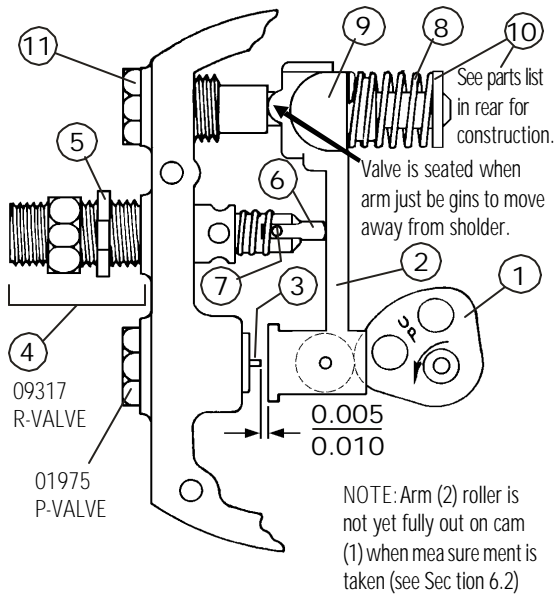

Figure 2
Remove the five hex head screws holding the top cover plate and remove the cover (with the pumper attached if a single pumper unit). This will open up the valve operating section, as shown in Figure 2, page 8.
system, you should proceed as follows. Refer to Figure 2, for the location and proper assembly of parts. You will probably also want to refer to the exploded parts drawings for your unit, included in the rear of this manual for details on parts placement and assembly.
Remove the five hex head screws in the top cover (P/N 00076). Be careful that the gasket (P/N 00456) is not damaged. The exposed mechanism should appear as shown in Figure 2, and there should be no loose parts. The numbers in parentheses in this section refer to the identification numbers in Figure 2.
Refer to Figure 2, for this procedure. Rotate the cam (1) until the arm (2) is 0.005 to 0.01 inch from the needle (3). Hold in this position. (You may need to partially unscrew the cam from the shaft to do this, or, if the maincase has been removed from the lower section, you may turn the drive dog on the bottom side clockwise until the cam is in the proper position.) Next, screw the R-valve (4) in until the piston just seats against the O-ring seat. This is the point at which the valve arm will just begin to move away from the face of the arm retainer (11). Test by applying suction to the outlet port of the R-valve. Now, tighten the lock nut (5) to hold it in position. Back up the cam, and again rotate it until the valve just closes. This should be determined by suction testing all the while. Hold this position of the cam and check the clearance between the needle and arm. Readjust the R-valve if necessary to obtain the 0.005 to 0.01 inch clearance when the R-valve has just closed.